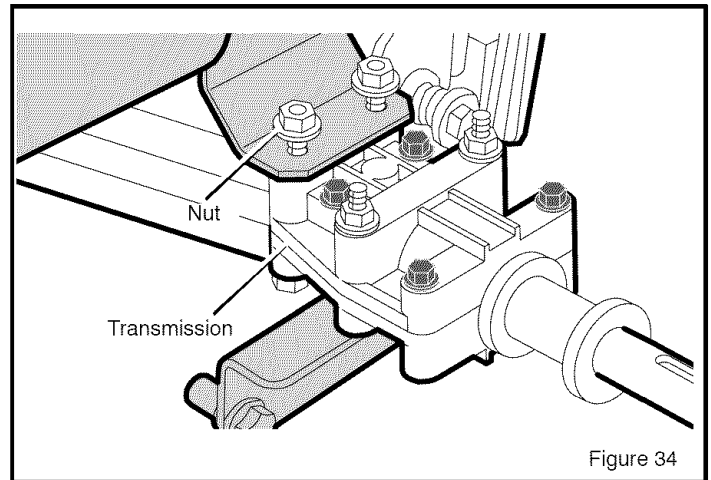

Figure 34
6. Loosen the **nuts** from each side of the **transmission** (see Figure 34). Do not remove the **nuts**. Loosen until the **nuts** are at the top of the **bolts**.